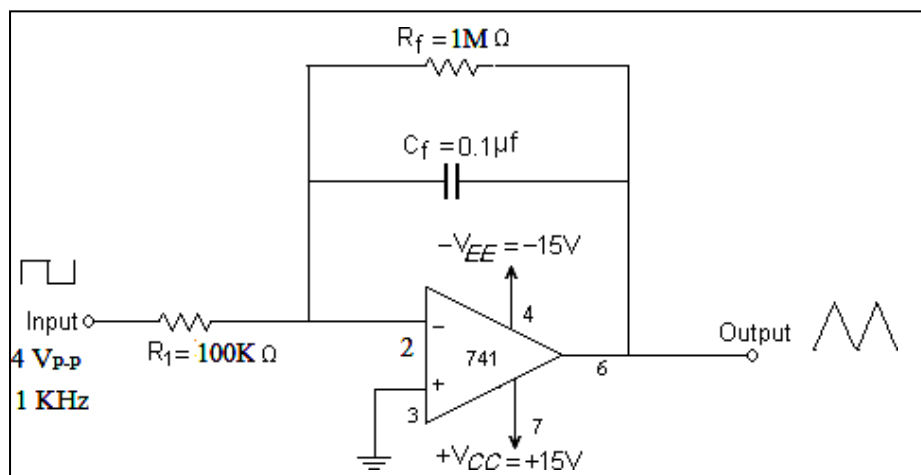

Fig 3 Integrator Circuit
1. Connect the circuit as per the diagram shown in Fig 3